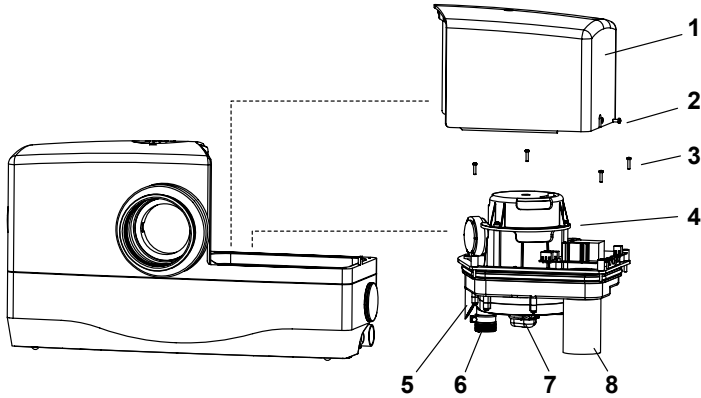

Figure 9
/ Remove securing screws (3) and lift pumping unit (4) from tank (see fig. 9).
If rotating the rotorshaft fails to clear the blockage then the complete motor/pumping unit must be removed from the tank for inspection and the blockage cleared by hand (see page 42, fig. 9).